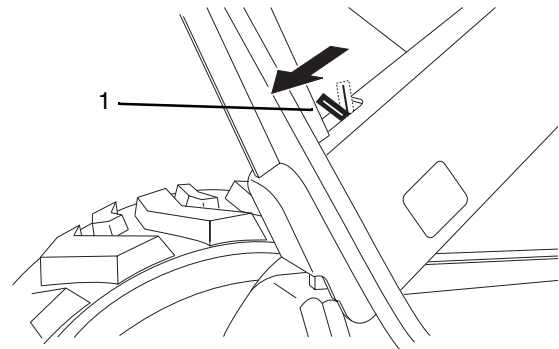

Figure 2-10 Operator's Protective Structure Lock Lever
- At the front of the vehicle, grasp the front hand holds and tilt the Operator's Protective Structure forward slightly and release the lock lever (Fig. 2-10, 1) in the lower left hand corner as viewed from the front of the vehicle.